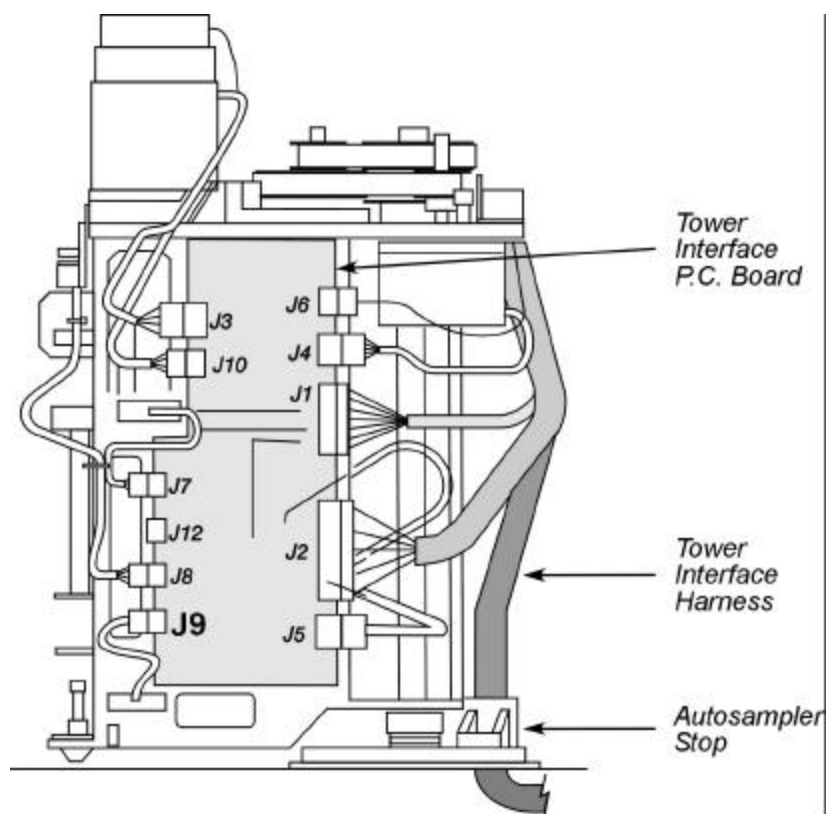

Figure 2- 2 Connecting the tower interface harness to the tower interface p.c. board.
4. Connect the two harness connectors to the tower interface P.C. board. Plug the large connector into J2 and the small connector into J1 (see Figure 2- 2).